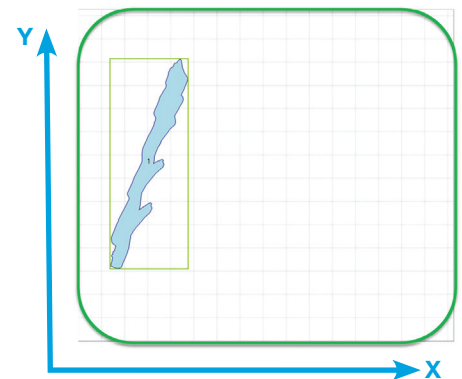

Figure 9: A single part packed in a Fortus 400mc is placed in the rear left quadrant and oriented along the y-axis.
**Fortus 400mc:** Align the part's long axis parallel to the Y-axis (Figure 9 ).